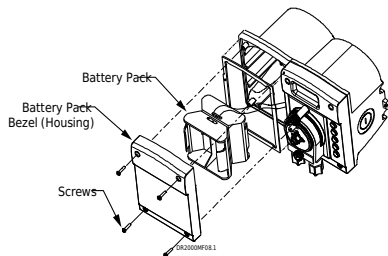

Figure 5. Inserting D-Cell Batteries
3. Insert 4 D-cell batteries as indicated. (Fig 5)